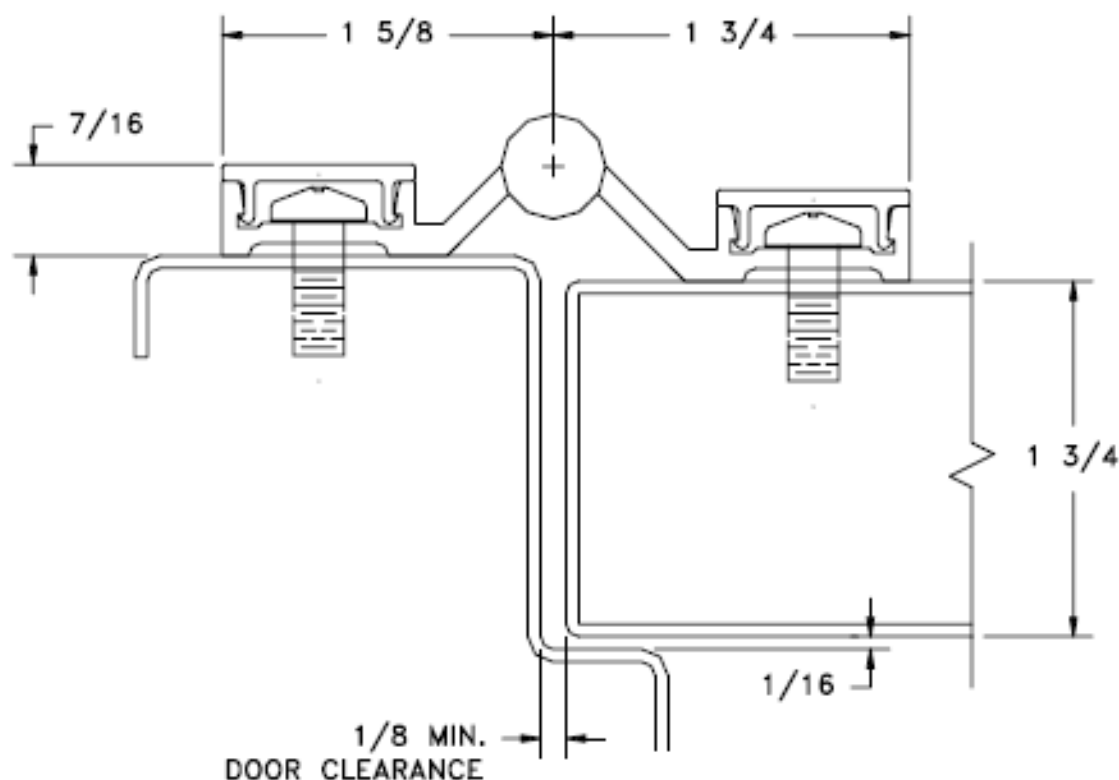

Figure 1: Hinge Placement & Clearance Template
(1) Place hinge on frame as shown in Figure 1 on the other side of these instructions.
(2) Mark the position of the top and bottom holes with a center punch, then drill and fasten. The use of the Markar MT-806 center punch can help center the hole so that the fasteners will enter straight.
(3) After the top and bottom screws are installed, drill and fasten the balance of the holes.